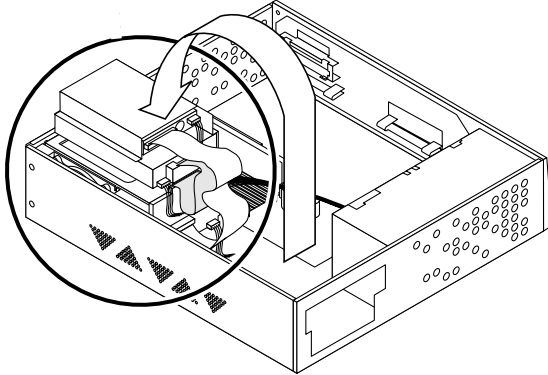

FIGURE 2-12 Replacing the Drive Bracket in the Disk Drive Bay
1. **Place the drive bracket on top of the disk drive bay (FIGURE 2-12).**